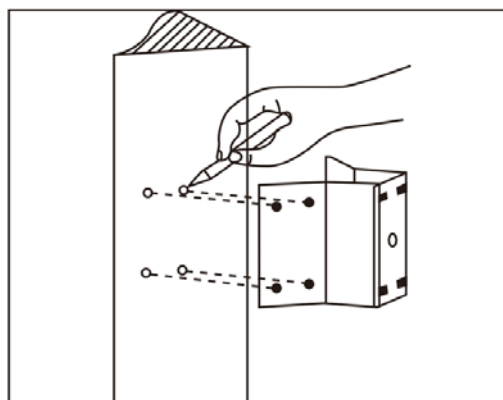

Fig 5
- a. As shown in Fig5, with the installation holes in the corner mounted attachment as pattern, draw punched locations on the wall with an angle of 90° and punch to install expansion bolt.